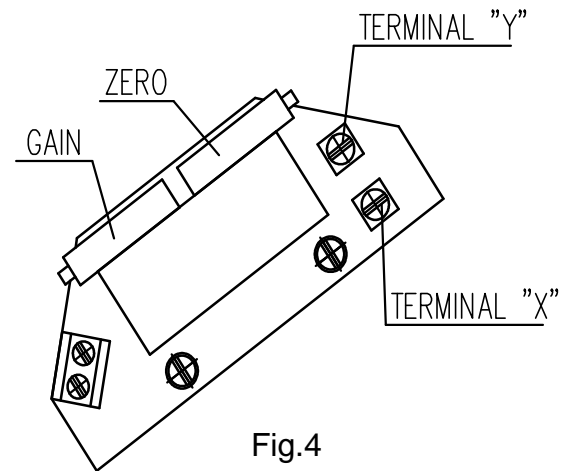

Fig.4
#### 3.4.1 EPV – the 2-wire version (Fig. 4)
- Adjust the resistive transmitter according to the previous chapter. The resistance is to be metered on the terminals X-Y (Fig. 4). The used transmitter resistance is 100 W
- Turn the adjusting trimmer ZERO (Fig. 4) to adjust the output current signal rate measured on the terminals 81-82 to 4mA.
- Turn the adjusting trimmer GAIN (Fig. 4) to adjust the output current signal rate measured on the terminals 81-82 to 20mA.
- Adjust the resistive transmitter according to the previous chapter. The resistance is to be metered on the terminals X-Y (Fig. 4).